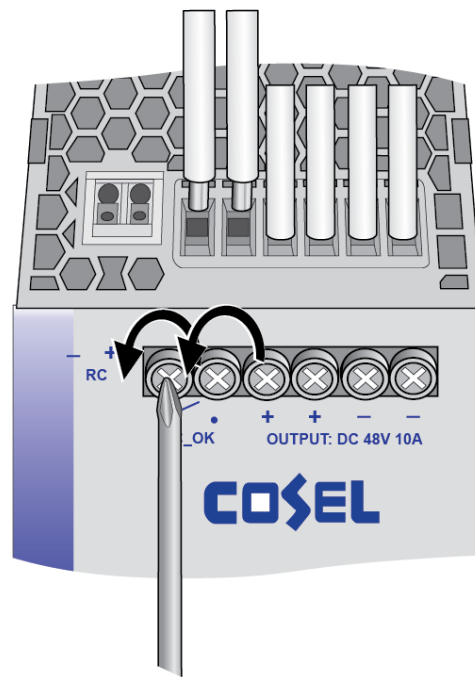

Figure 16. Wiring the DC_OK Connector
2. Loosen the two DC_OK connector screws on the front panel and insert the wires into the connectors on the top panel. Refer to Figure 16.